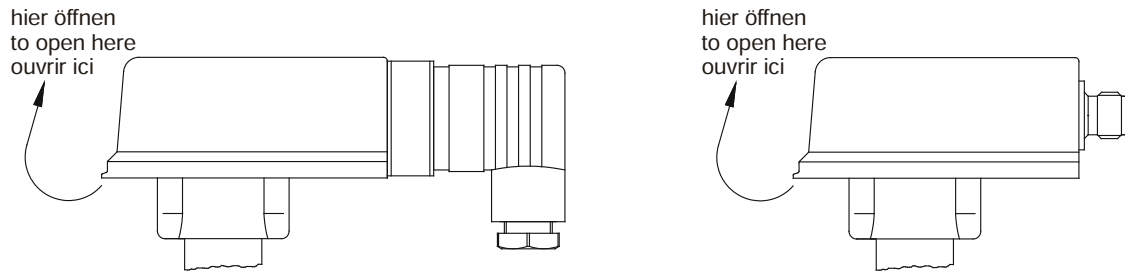

Fig.17
- ✚ In order to adjust the switching unit, open the cover of the switching head (→ Fig. 17) (not required for VK3...)